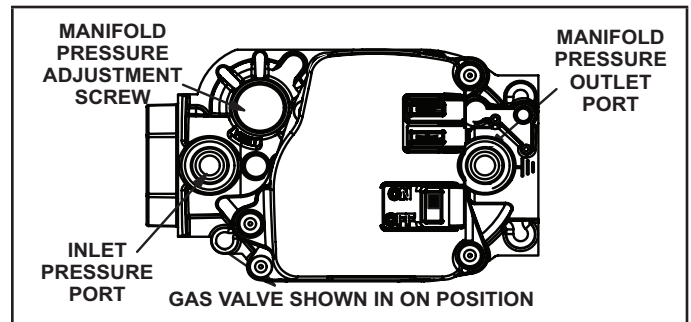

FIGURE 55
Gas Valve Operation (FIGURE 55)
- 6 - Move gas valve switch to **OFF**. See FIGURE 55.
- 8 - Move gas valve switch to ON. See FIGURE 55.
When testing supply gas pressure, use the 1/8" N.P.T. plugged tap located on the gas valve to facilitate test gauge connection. See FIGURE 55. Check gas line pressure with unit firing at maximum rate. Low pressure may result in erratic operation or underfire. High pressure can result in permanent damage to gas valve or overfire.